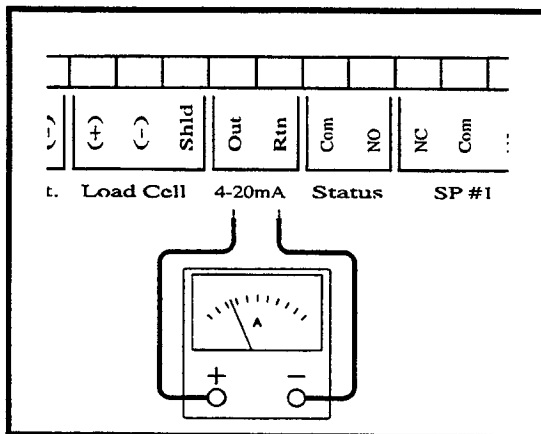

Figure 3-1
- (c) Connect an ammeter to the 4-20mA output terminals of the Model 100 as shown in Figure 3-1.
- (d) Connect an ammeter to the 4-20mA output terminals of the Model 100 as shown in Figure 3-1.